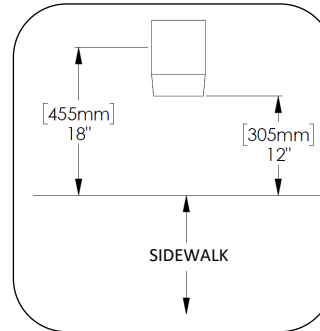
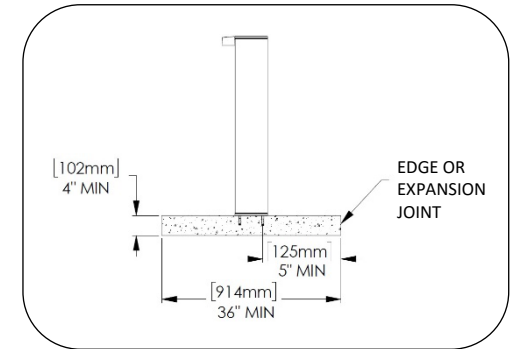
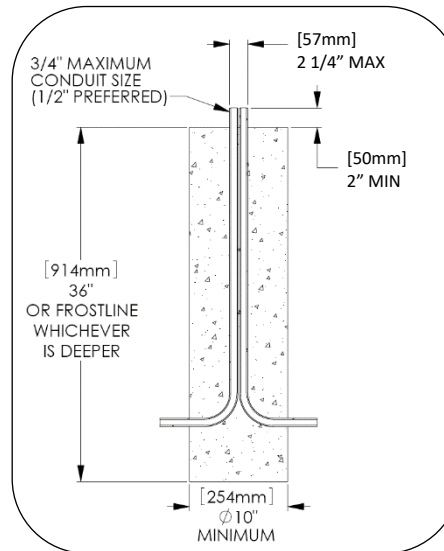

Fig. 1 – Recommended setback from sidewalk
Fig. 2 – Minimum concrete slab size
Fig. 3 – Minimum footing recommendation
1. Prepare footing as required by local codes, see Fig. 1, Fig. 2 and Fig. 3 for recommendations.